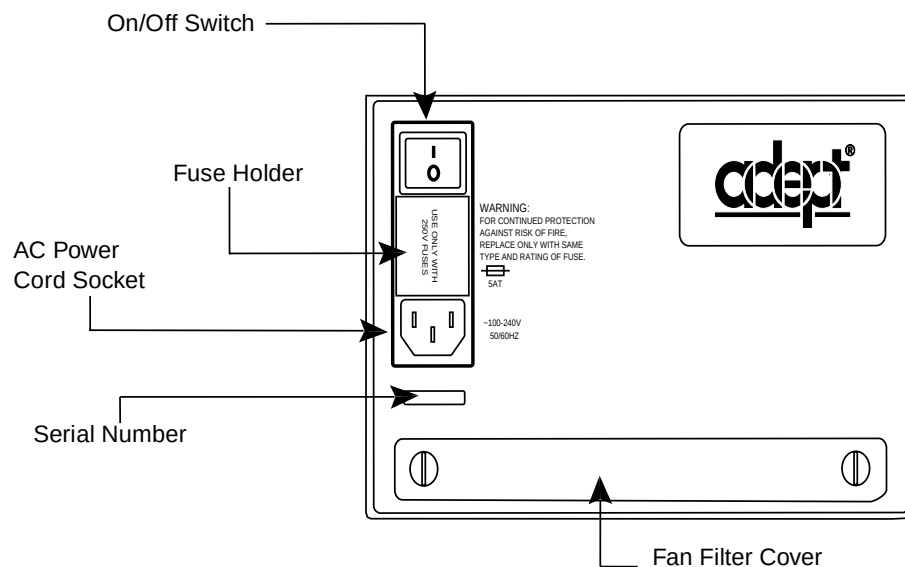

Figure 4-16. Adept MV Controller Power Entry Board
- Fuse holder containing the two incoming AC line fuses (The spare fuses are stored in the fuse holder; see Figure 4-16.)